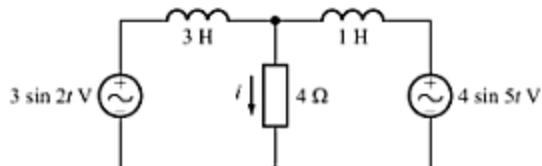

Fig. C-76
- C-129.** Determine the current  $i$  through the 4- $\Omega$  resistor in the circuit shown in Fig. C-76.